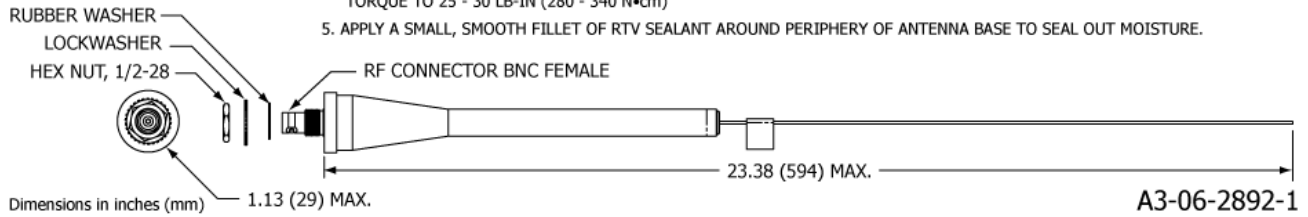

Figure 14 A3-06-2892-1 Antenna Outlines and Dimensions
- 4) Drill the antenna mounting holes and coax connector hole referring to Figure 14 below.
- 5) Mount the antenna referring to Figure 14 below for hardware requirements, torque, and other applicable installation requirements.